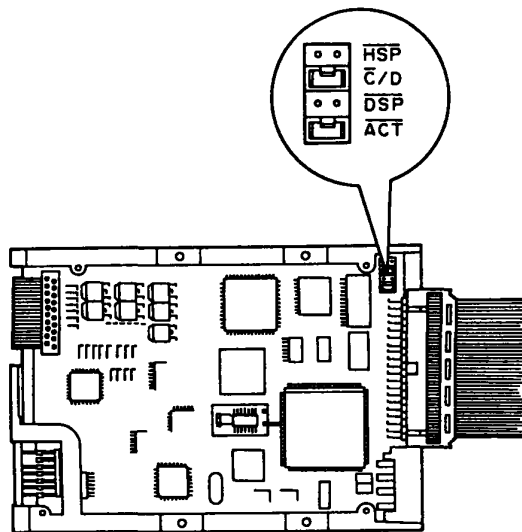

Figure 2-2 HDD jumper straps
2. Check that the jumper straps are set correctly as shown in figure 2-2 and described in table 2-6.